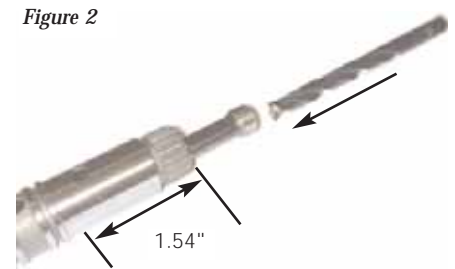

Figure 2
3. Reinstall the inner tube by pressing in place using a $1\frac{3}{64}$ " (.297" diameter) transfer punch or blunted drill bit. Take care to fully seat the inner tube in the pump shaft. The installed height should be approximately 1.54" from the end of the pump shaft (Figure 2).